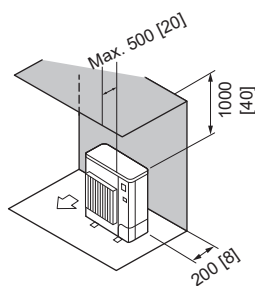

Fig. 2-7
2. Obstacles at rear and above only (Fig. 2-7)